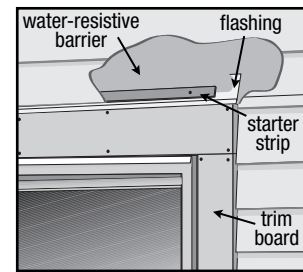

FIGURE 13
- When ending Artisan lap at the bottom of a window or at the top of a wall, a finishing strip similar to a starter strip maybe necessary to achieve a proper plank angle. Also when cutting Artisan lap around doors, windows, or other horizontal trim applications, an additional starter strip maybe necessary to achieve proper plank angle (fig. 13).
† The illustration (figure 13) and associated text was reprinted with permission of THE JOURNAL OF LIGHT CONSTRUCTION. For subscription information, call (800) 375-5981 or visit [www.jlconline.com](http://www.jlconline.com).